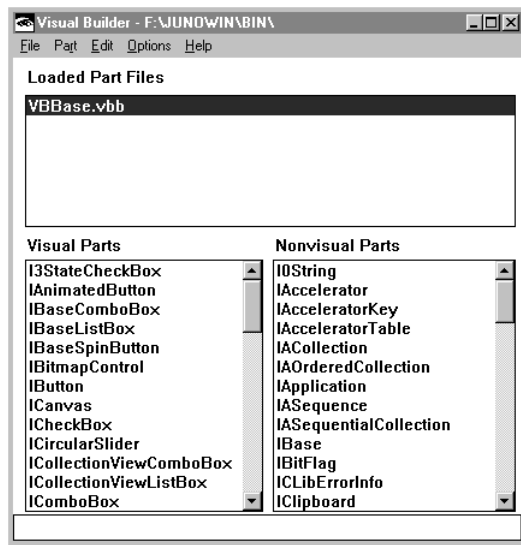

Figure 34. Visual Builder Window with vbbase.vbb Parts Displayed
Figure 34 on page 114 shows the Visual Builder window with the names of the parts in the vbbase.vbb file displayed:
The Visual Builder window with parts loaded from the part file is shown in Figure 34 on page 114.
- The Visual Builder window with parts loaded from the part file is shown in Figure 34 on page 114.